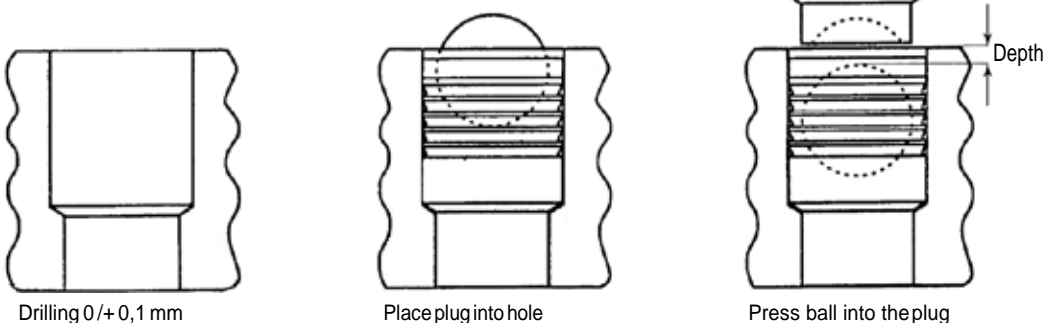

Figure 5
- 3) Place one plug into the hole, with the ball facing out. The edge of the plug must be on the same level of the hole corner or below (See figure 5).
- 4) Press the ball into the plug using the proper KSA installation tools/equipments (see figures 6-7-8-9). The ball should be pressed below the hole edge (See figure 5).